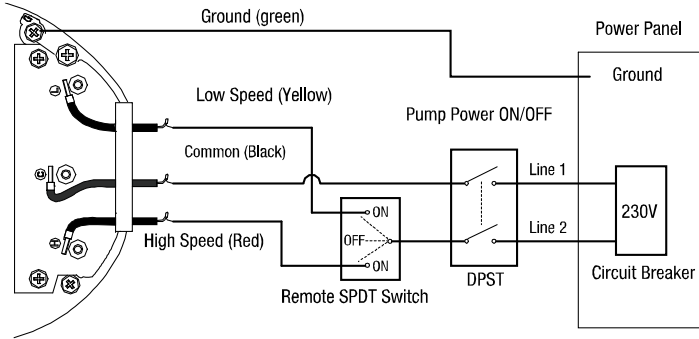

FIG.5
- Wire the pump as shown in the diagram below. (FIG.5)